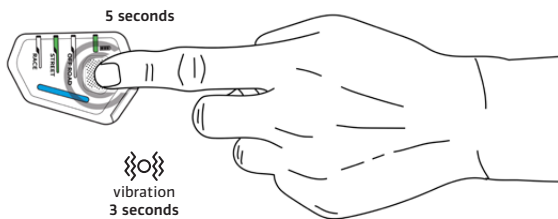

Figure 12: Press the Display Button (3a) for 5 seconds to Switch Off the System (this is an alternative method for turning off the System)
Alternatively, the User can manually turn off the System by pressing the Display Button (3a) for approximately 5 seconds (Figure 12). A long vibration, lasting (~3 seconds) of the System will also be felt in the vicinity of the Activation Zip (2) confirming that the System is no longer activated.